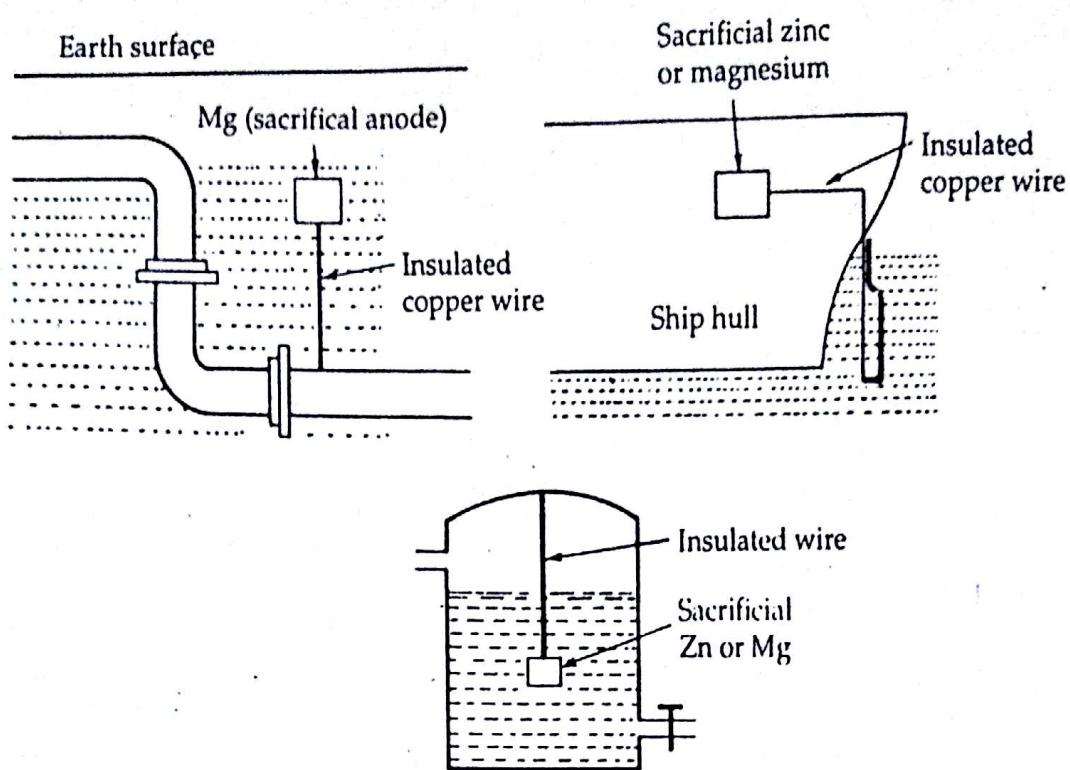

Fig. 12. Sacrificial anodic protection.
- (a) Protection of underground cables and pipelines from soil corrosion [Fig. 12(a)].
- (b) Protection of ships and boat hulls from marine corrosion. Sheets of Mg or Zn are hung around the ship hull, these sheets being anodic to iron so these sheets get corroded. When consumed completely, these are replaced by fresh ones [Fig. 12(b)].
- (c) The formation of rusty water is prevented by the insertion of Mg sheets or rods into domestic water boilers or tanks [Fig. 12(c)].